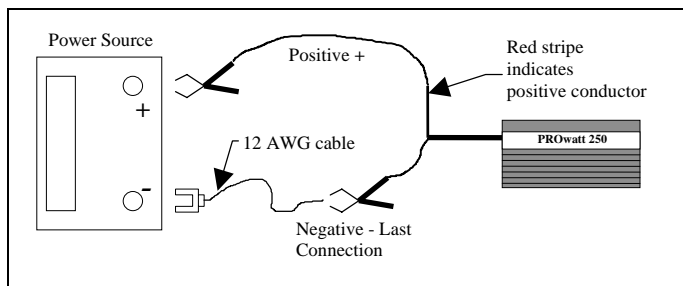

Figure 4. PROwatt 250 - Temporary Connection to Power Source
**For temporary connections** (see Figure 4):